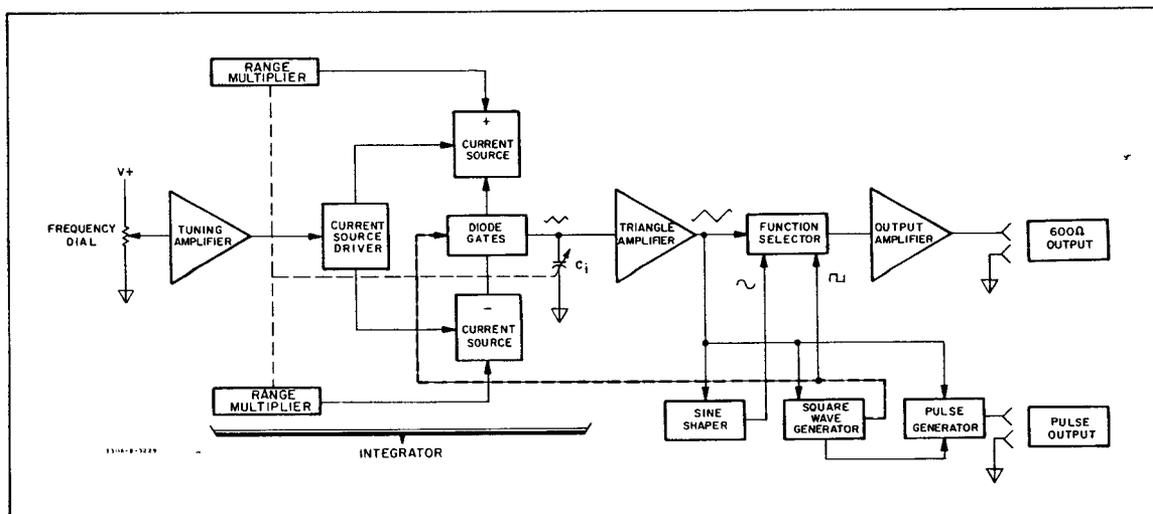

Figure 4-1. Basic Block Diagram.
*The discussion in Paragraph 4-2 through 4-5 refers to Figure 4-1.*